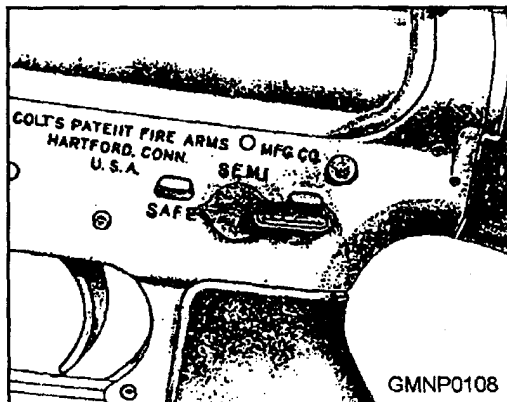

Figure 3-34.—Selector lever pointing to SAFE.
1. Attempt to point the selector lever toward SAFE, the position shown in figure 3-34. If the weapon is not cocked, the selector lever cannot be pointed toward SAFE. If this is the case, do not cock the weapon at this time; instead, go on to the next step in clearing.